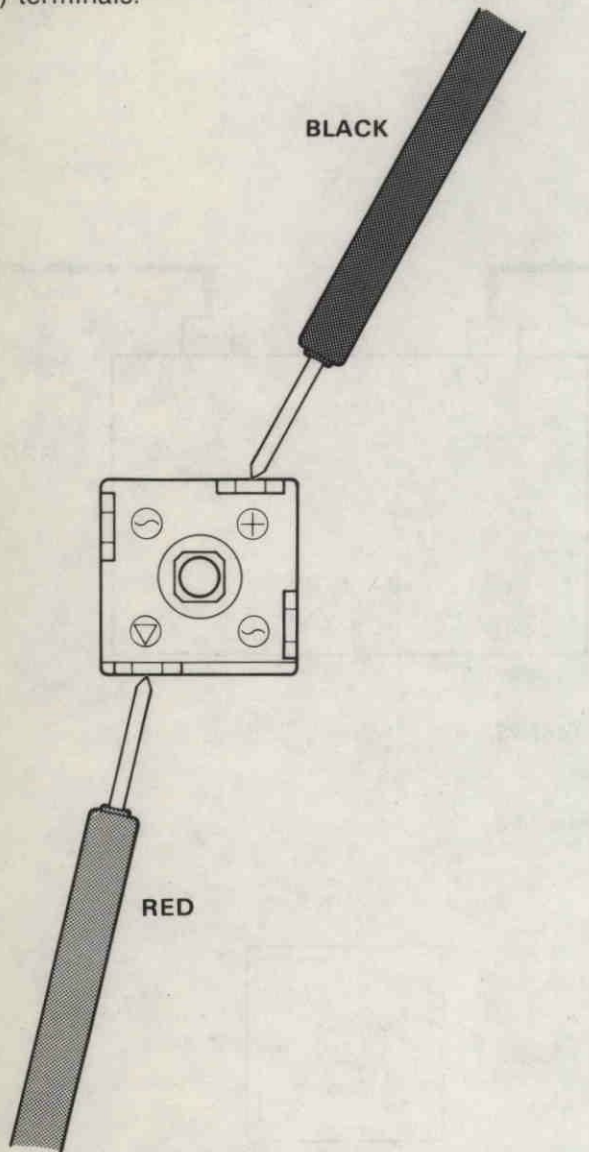

Figure 22. Test #4. Step 4.
4. With red tester lead on negative (∇) terminal, move black tester lead to positive (+) terminal. Figure 22.